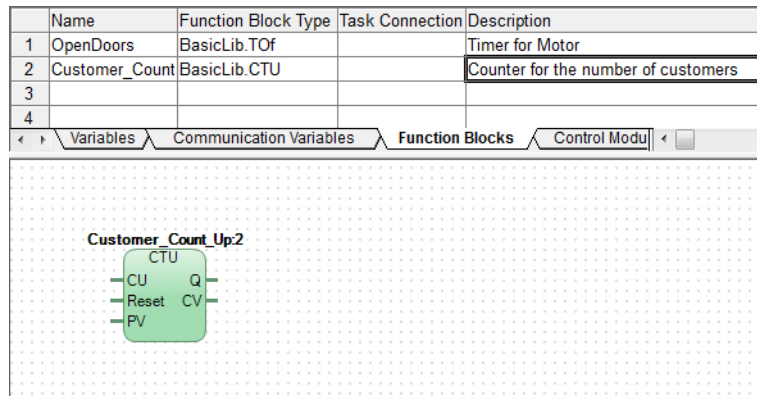

Figure 38. Declare CTU Function Block Type in Number_of_Customers page
- Customer_Count_Up function block is created as in the Figure 38. Add the description according to Figure 38.